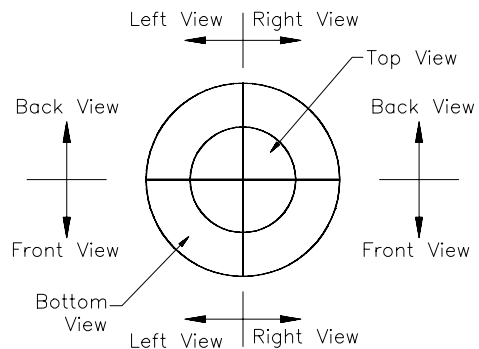

Figure 25-22 *The directions for the compass*
1. If you select a point inside the smaller circle in the first quadrant, the resultant view will be the Right, Back, and Top view. If you select a point outside the smaller circle and inside the bigger circle in this quadrant, the resultant view will be the Right, Back, and Bottom view (Figure 25-22).
2. If you select a point inside the smaller circle in the second quadrant, the resultant view will be the Left, Back, and Top view. If you select a point outside the smaller circle and inside the bigger circle in this quadrant, the resultant view will be the Left, Back, and Bottom view (Figure 25-22).
3. If you select a point inside the smaller circle in the third quadrant, the resultant view will be the Left, Front, and Top view. If you select a point outside the smaller circle and inside the bigger circle in this quadrant, the resultant view will be the Left, Front, and Bottom view (Figure 25-22).
4. If you select a point inside the smaller circle in the fourth quadrant, the resultant view will be the Right, Front, and Top view. If you select a point outside the smaller circle and inside the bigger circle in this quadrant, the resultant view will be the Right, Front, and Bottom view (Figure 25-22).